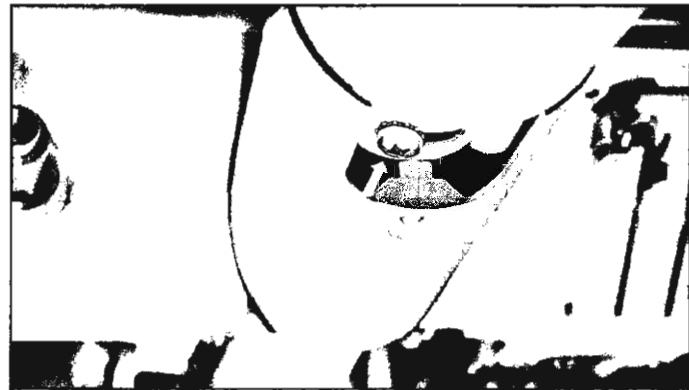

Fig. 42—Upper Adjusting Ring Screw
2. Move upper adjusting ring screw up ramp slot until tight and back-off only enough to allow lever support housing to rotate freely (fig. 42).